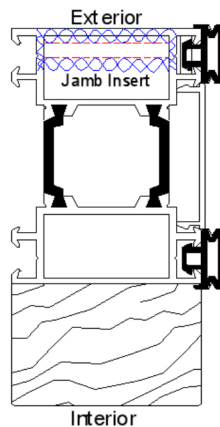

FIG 1.
- a) Identify the hinge jamb for stacking side and latch jamb as per figures 1 & 2.
- b) Caulk ends of both jambs as shown in figures 1 & 2 depicted by the blue squiggly lines & remove black jamb covers.